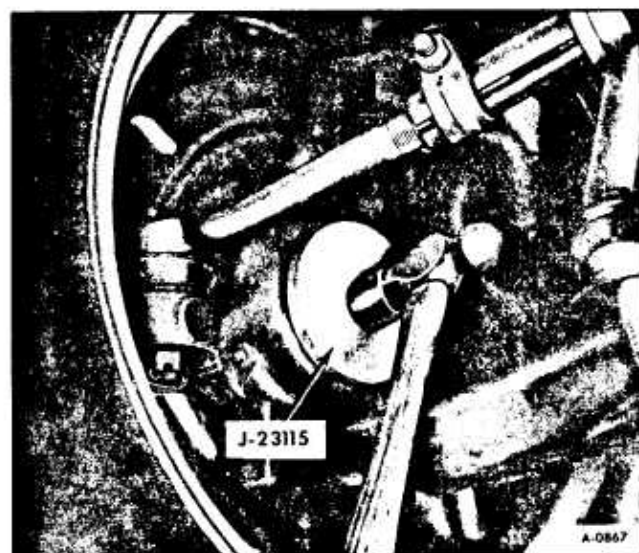

Figure 12—Installing Knuckle Seal
6. Remove the two caliper to knuckle attaching bolts. (figure 12).
3. Install seal into knuckle until tool bottoms. (figure 12).
3. Install seal into knuckle until tool bottoms (figure 12).